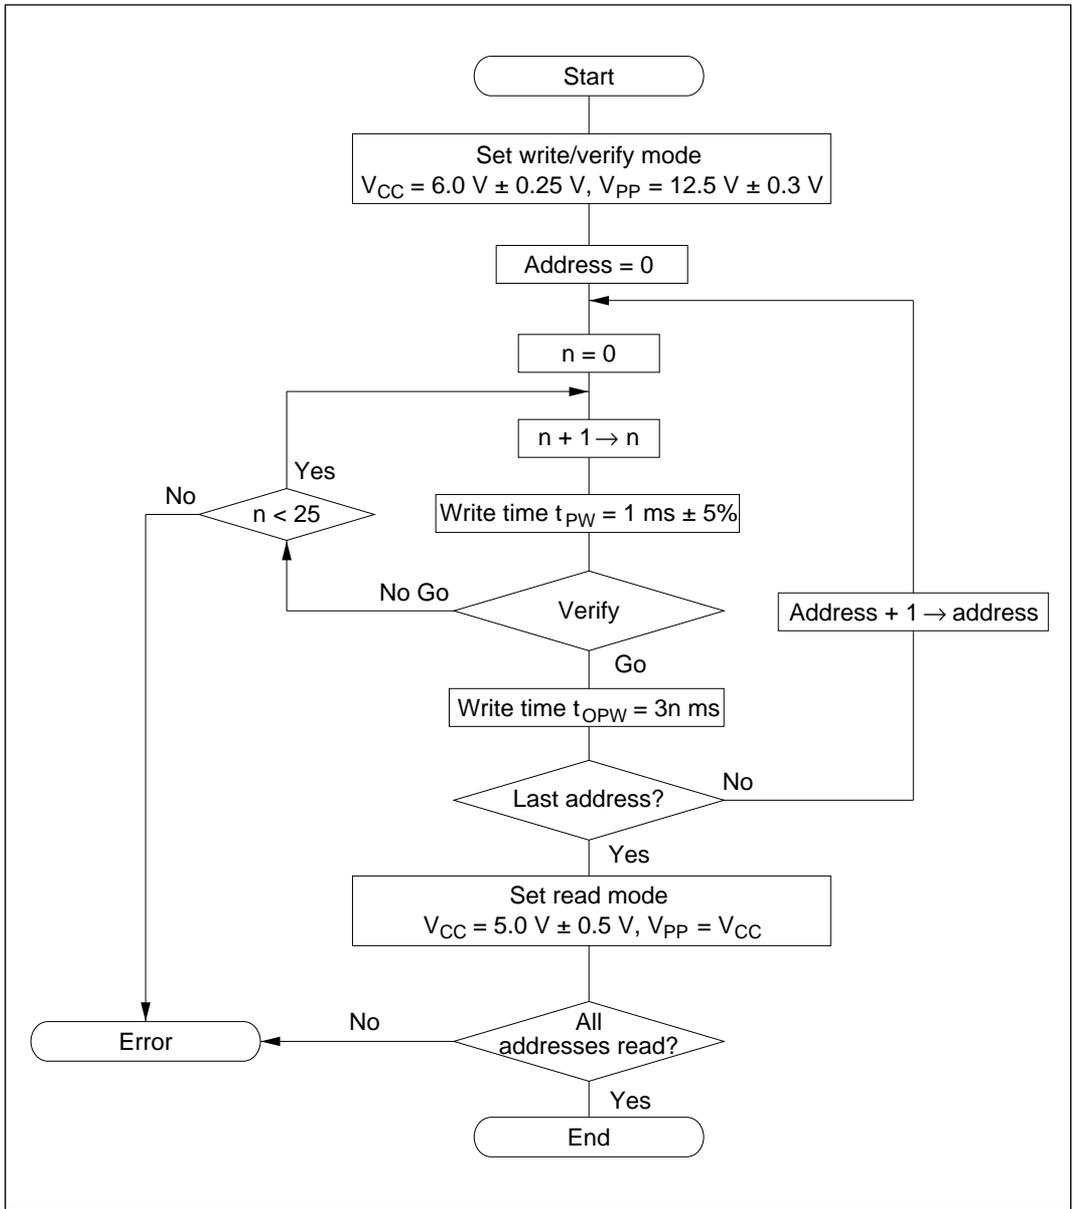
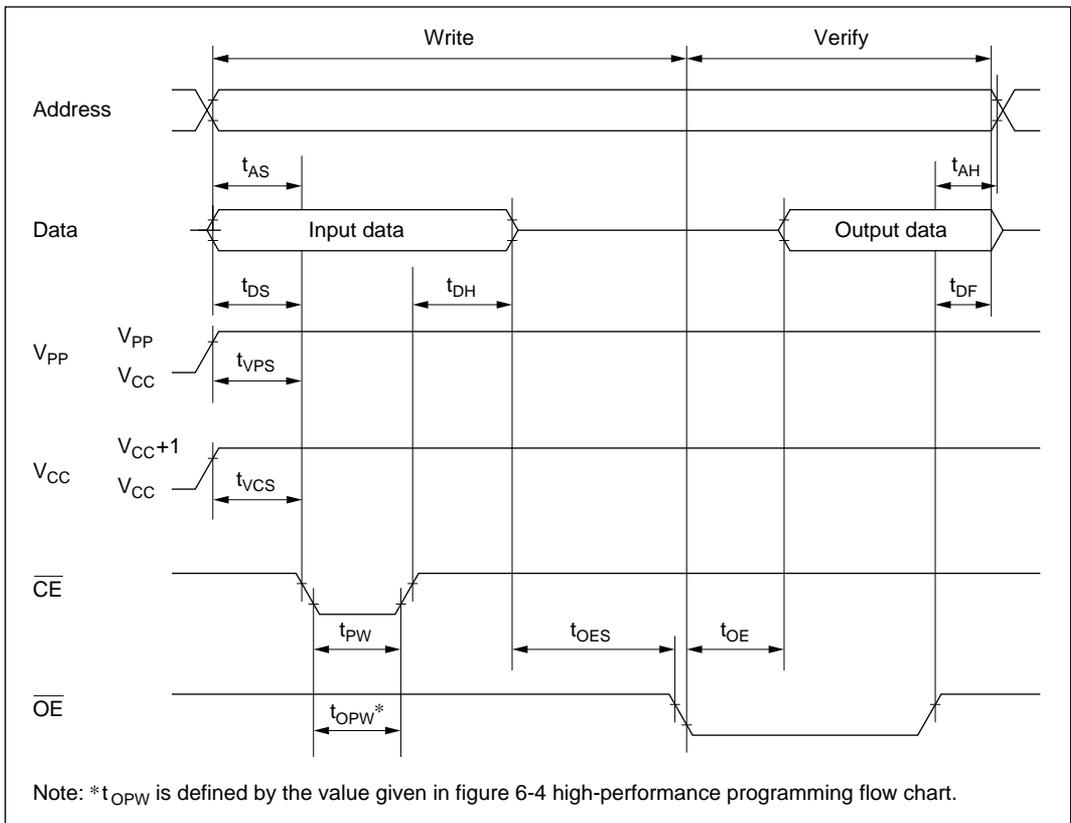

Figure 6-4 High-Performance Programming Flowchart
Figure 6-5 PROM Write/Verify Timing
The basic flow of this high-performance programming method is shown in figure 6-4. Table 6-4 and table 6-5 give the electrical characteristics in programming mode. Figure 6-5 shows a write/verify timing diagram.
- t_{OPW} is defined by the value given in figure 6-4 high-performance programming flow chart.